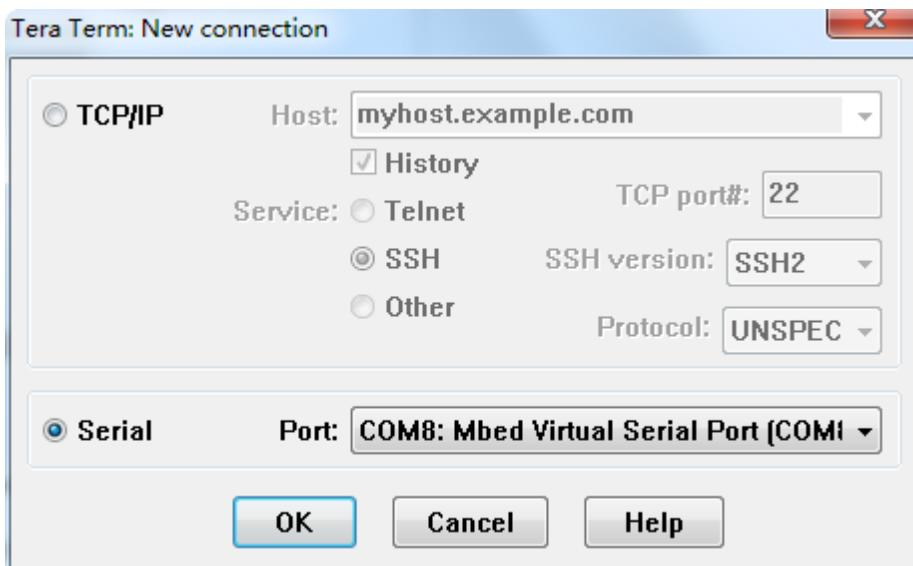

Figure 33. Connecting to mbed serial port
- 1) Open the terminal application and connect to the mbed serial port. If you are using TeraTerm, select **File** and then **New Connection...** from the menu bar, and then select **Serial**. Provide the **Port** corresponding to **mbed Serial Port**, as shown in Figure 33 and click **OK**.